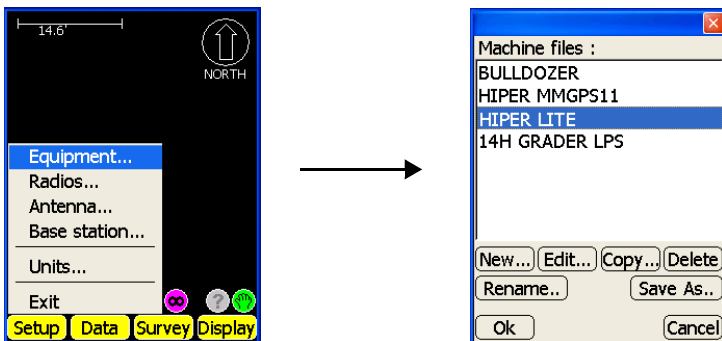

Figure 4-11. Select Equipment File
5. Press **Setup ▶ Equipment**, select the correct Equipment Configuration file, and press **Ok** (Figure 4-11). See “Equipment Configuration Files” on page 2-28 for more information on selecting or creating new equipment configuration files.